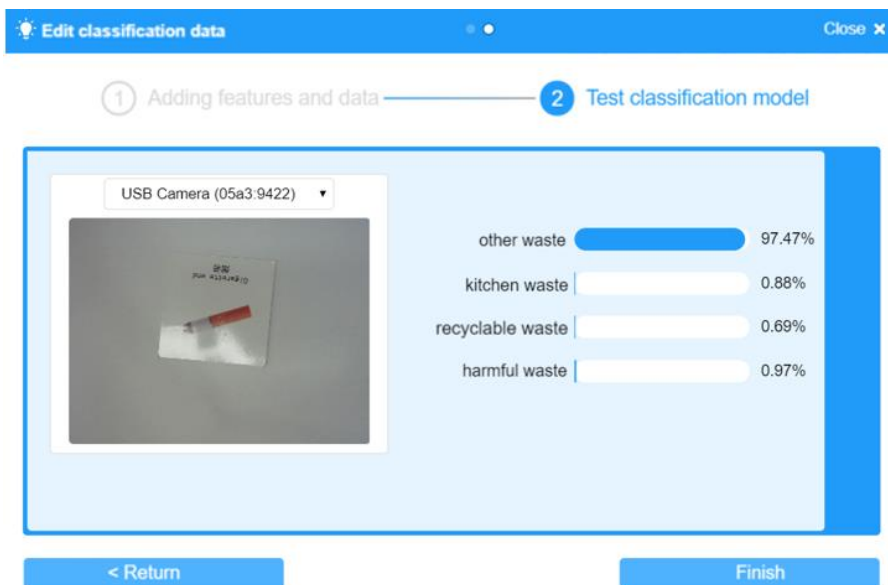

Figure 3.5 Test classification model
Step 5: Test classification model, place all types of garbage under the camera, and test the accuracy of recognition, as shown in Figure 3.5.